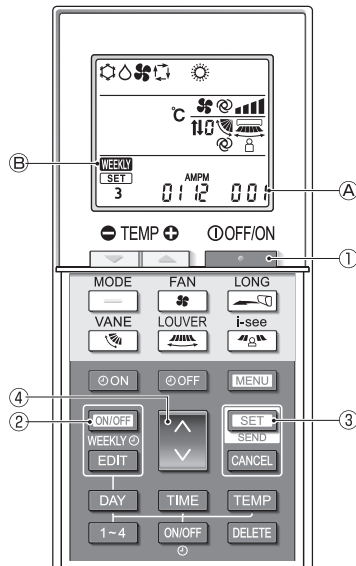
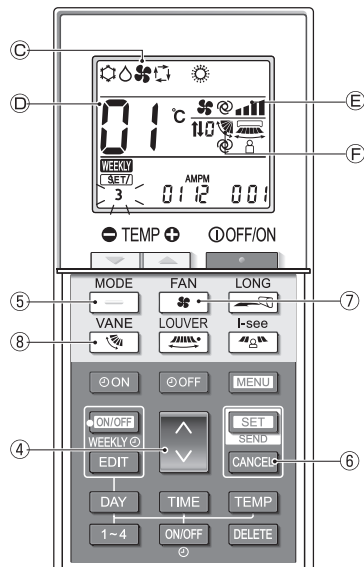

Fig. 4-1
Fig. 4-2
1. Switching to the function setting mode (Fig. 4-1)
- Press the button ① to stop the air conditioner.
- If the weekly timer is enabled, press the button ② to disable the timer. (disappears.)
- Press the button ③ for 5 seconds.
- The remote controller enters the function setting mode. (The group model setting number ④ blinks.)
2. Entering the group model setting number (Fig. 4-1)
- Press the button ④.
3. Separate settings mode 1 (Fig. 4-2, Fig. 4-3)